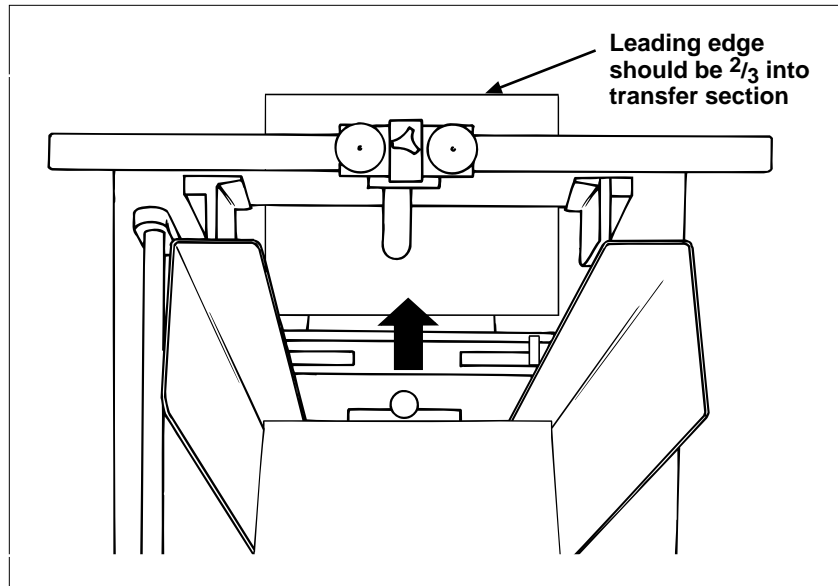

Figure 2-7. Checking for Proper Material Discharge from Feeder to Vacuum Base
2. Insert a piece of material under the hold-down block/ball bearings in such a way that approximately 2/3 of the leading edge is extending out beyond the feeder (Figure 2-7).